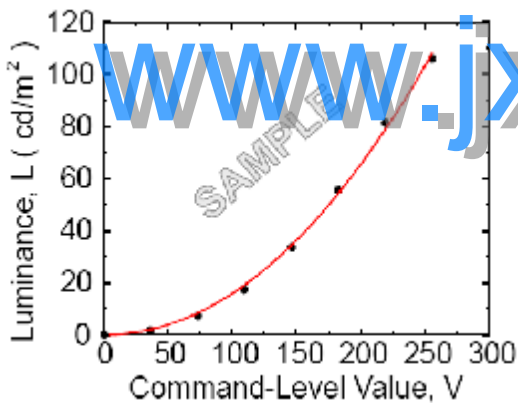
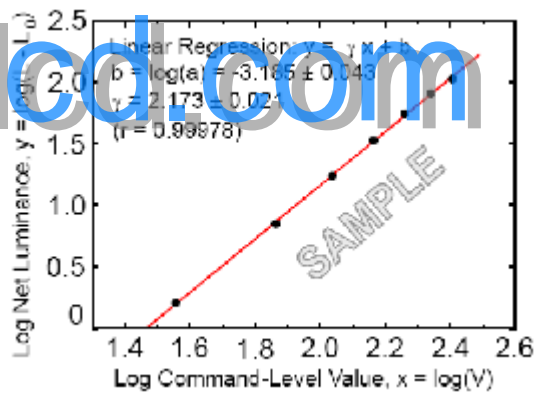

FIG. 5 Sample Luminance vs. gray scale (using a 256 bit gray scale)
FIG. 6 Sample Log-log plot of luminance vs. gray scale
7. GSR is the rate of gamma shift at up, down, left and right 60 degree viewing angle compare with center gamma. For more information see FIG 5 and FIG 6 (By EZ Contrast)
The GAMMA we calculate from the log-log representation (FIG. 6)